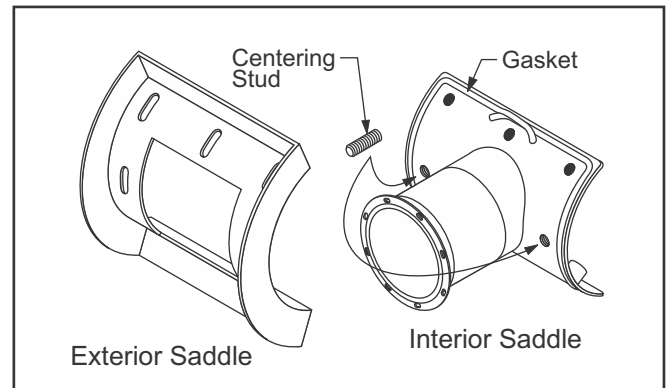

Fig. 26: Interior and Exterior Saddles
2. Install Interior Saddle: Apply PTFE gasket to the outside edge of the interior saddle, as shown. Slip the interior saddle carefully into the opening. With the saddle in place, insert studs finger tight into the two horizontal center holes. (Fig. 26)